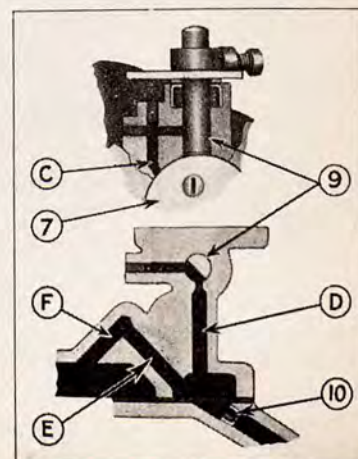

Figure 2
of the carburetor is restricted by a bushing (10) (see Figure 2) thus preventing bowl ventilation from overcoming the suction from channels (C and D).